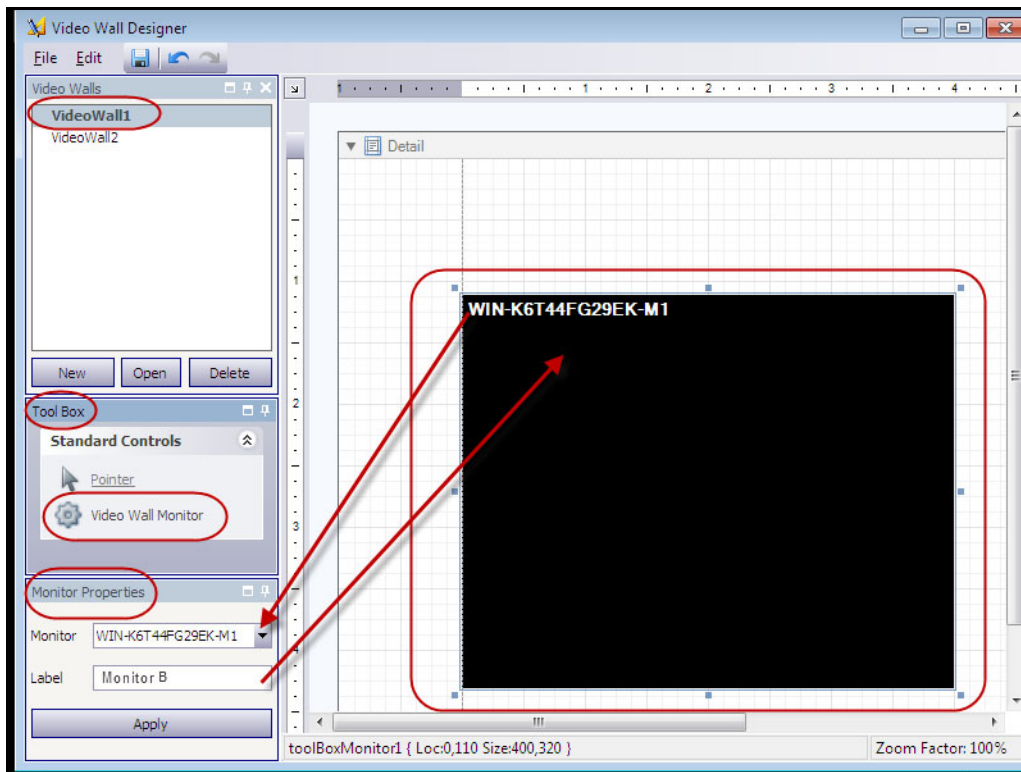

Figure 57. Changing the Label of the monitor
8. A black box including the name of the monitor is displayed in the grid. Click the box to activate it. The name of the monitor is displayed in **Monitor Properties** in the left pane in the **Monitor** and **Label** fields (Figure 57 on page 93).